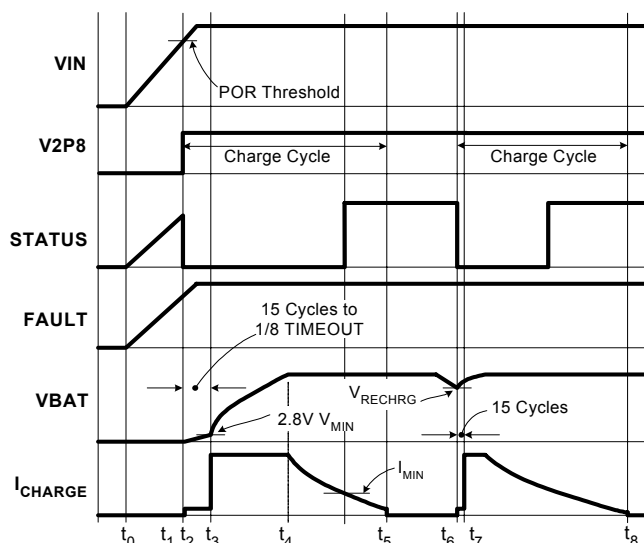

FIGURE 5. OPERATION WAVEFORMS
Figure 5 illustrates the typical signal waveforms for the linear charger from the power-up to a recharge cycle. More detailed Applications Information is given below.
LOW and a HIGH logic signal respectively. Figure 5 illustrates the start up of the charger between t_0 to t_2 .
A charge cycle consists of three charge modes: trickle mode, constant current (CC) mode, and constant voltage (CV) mode. The charge cycle always starts with the trickle mode until the battery voltage stays above V_{MIN} (2.84V typical) for 15 consecutive cycles of the internal oscillator. If the battery voltage drops below V_{MIN} during the 15 cycles, the 15-cycle counter is reset and the charger stays in the trickle mode. The charger moves to the CC mode after verifying the battery voltage. As the battery-pack terminal voltage rises to the final charge voltage V_{CH} , the CV mode begins. The terminal voltage is regulated at the constant V_{CH} in the CV mode and the charge current is expected to decline. After the charge current drops below I_{MIN} (1/10 of I_{REF} , see End-of-Charge Current for more detail), the ISL6292C indicates the end-of-charge (EOC) with the STATUS pin. The charging actually does not terminate until the internal timer completes its length of TIMEOUT in order to bring the battery to its full capacity. Signals in a charge cycle are illustrated in Figure 5 between points t_2 to t_5 .
After a charge cycle completes, charging is prohibited until the battery voltage drops to a recharge threshold, V_{RECHRG} (see Electrical Specifications). Then a new charge cycle starts at point t_6 and ends at point t_8 , as shown in Figure 5. The safety timer is reset at t_6 .
The trickle mode charge has a time limit of 1/8 TIMEOUT. If the battery voltage does not reach V_{MIN} within this limit, a TIMEOUT fault is issued and the charger latches up. The charger stays in trickle mode for at least 15 cycles of the internal oscillator and, at most, 1/8 of TIMEOUT, as shown in Figure 5.
The EOC current I_{MIN} sets the level at which the charger starts to indicate the end of the charge with the STATUS pin, as shown in Figure 5. The charger actually does not terminate charging until the end of the TIMEOUT, as described in the Total Charge Time section. In the